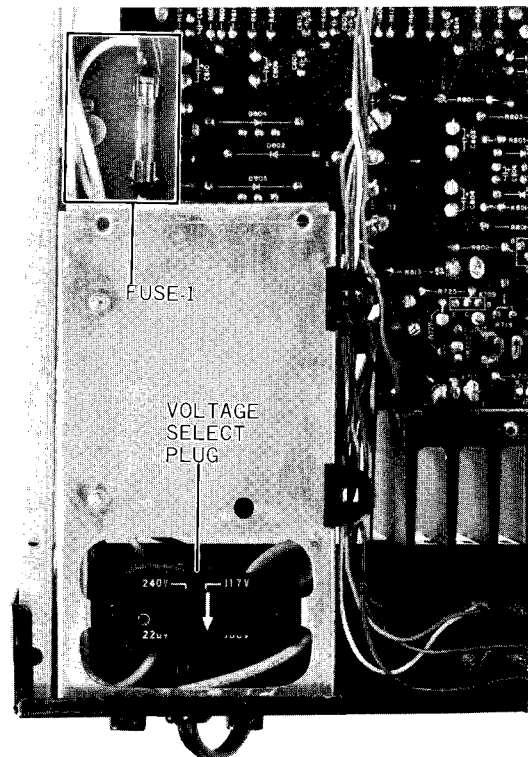

Fig. 11
3. The voltage select plug is located at the corner of the chassis. Remove this select plug and change the position of it so that the arrow points to the required voltage. (see Fig. 11)